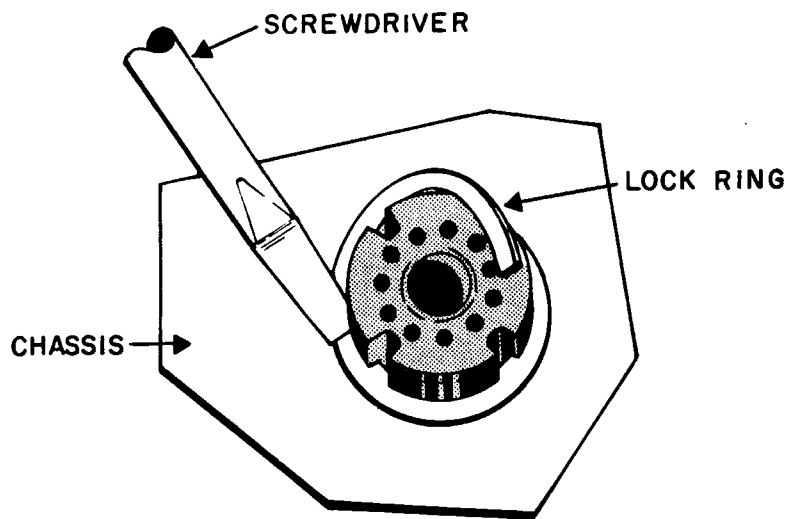

FIGURE 6. MOUNTING J-2
- J-2, 11-pin socket. Mount with a lock ring as shown in Figure 6.